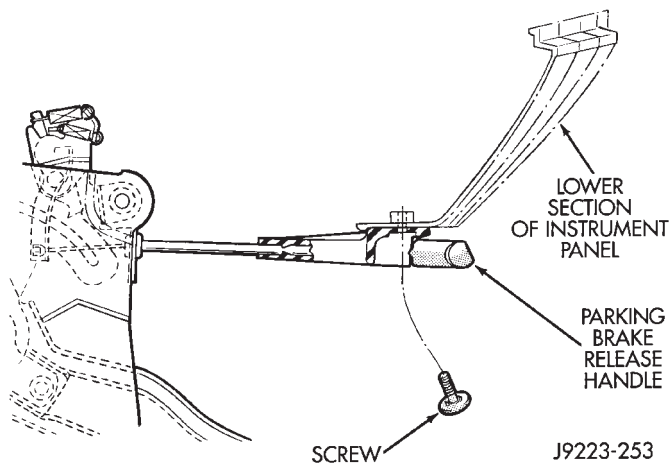

Fig. 14 Park Brake Release Handle
(3) Remove the park brake screw from the lower section of the instrument panel (Fig. 14).